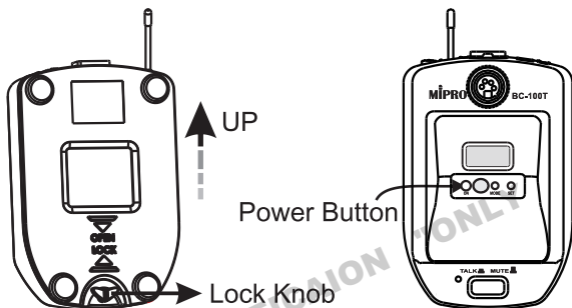

Fig. 4
3. Align and push up the Base Cover ⑫ and turn the knob ⑭ 180° for a secured closure. Push and hold Power Button ⑥ for 2 second to power on, Fig. 4.